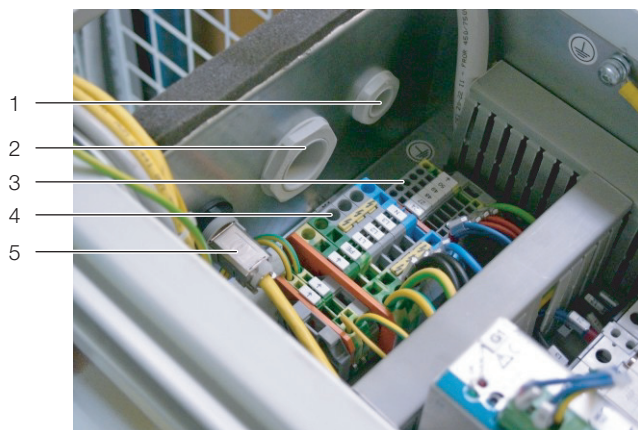

Fig. 23: Connection terminals in the electronics box
In the electronics box, remove the jumper between the two terminals 24 and 27 ("Remote On-Off") and connect a floating remote switch (normally open contact) (fig. 23, item 3).